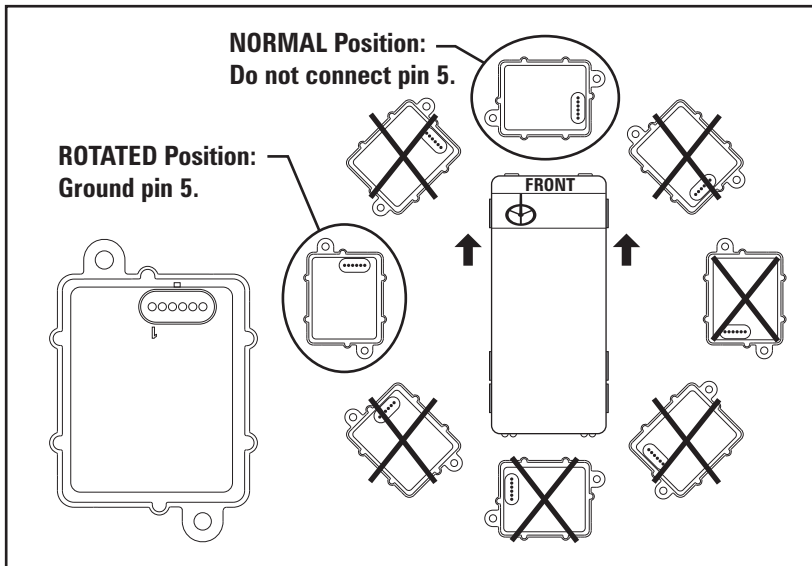
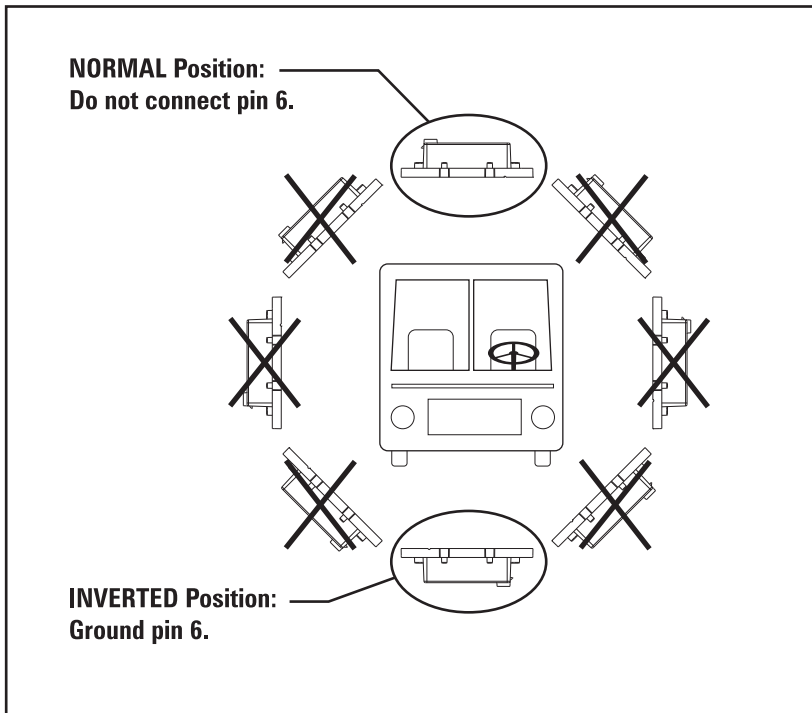

Figure 1
Figure 2
2. Install the module with the connector end toward the right-hand side of the vehicle (normal position) or toward the front (rotated position) as shown in Figure 1. The module can also be mounted with the connector side up or down (inverted position) as shown in Figure 2. Regardless of how the module is mounted, it **MUST** be level both left-to-right and front-to-back.